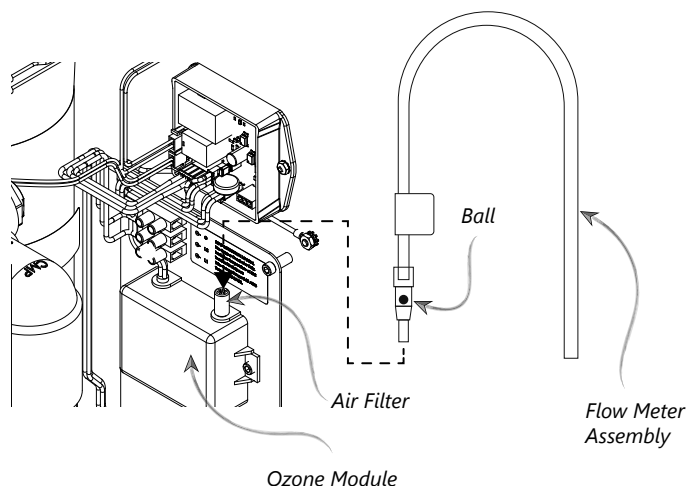

Figure 6a : Flow Meter Test
1. Flow Meter Test (Fig 6a) : If there is any question whether the injector is performing properly, a flow meter is provided in the parts kit to check for proper suction through the ozone cell.